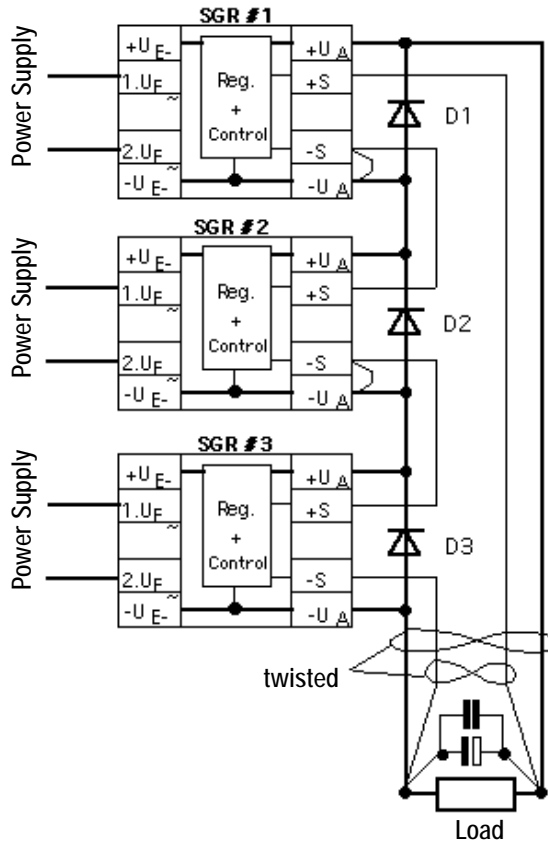

Figure 13:
4.3.4 Series Connection (figure 13)